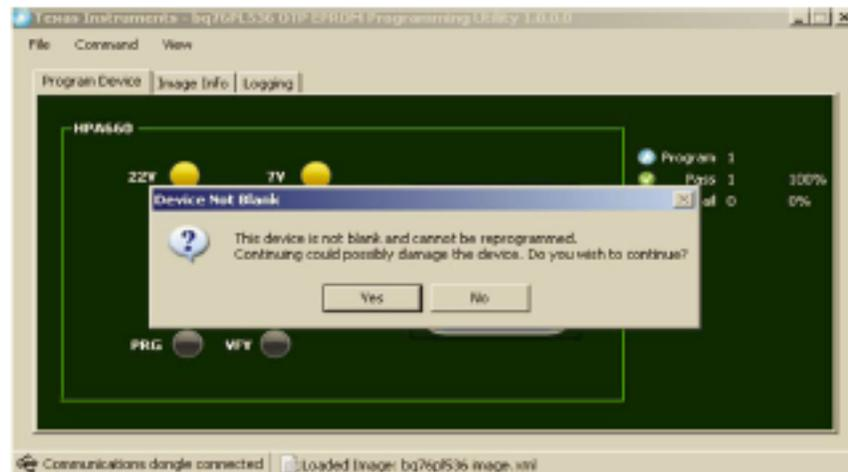

Figure 18. Reprogramming Trimmed IC
- (a) Figure 18 error message pops up.